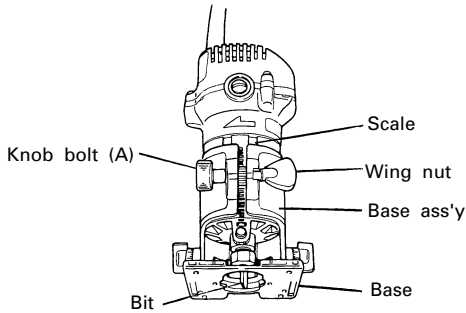

Fig. 3
- (1) Remove the base ass'y from the body. When loosening the wing nut (See Fig. 3), the base ass'y can be removed.
- (1) Loosen the wing nut on the base ass'y.
- (2) Move the base ass'y up and down by turning knob bolt (A) and fit the front end of base with the pointed end of the bit. (Fig. 3)